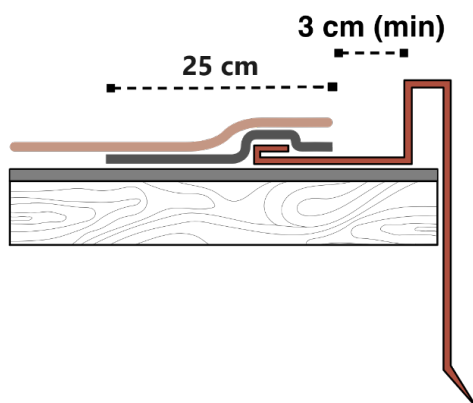

**Fig. 16** - Shingles installation at valleys
- Cross-cut the top edge of the shingle to the valley – Fig. 16, so as to convey the descending water along the axis of the valley. Lift the shingles one at a time and fix them by torch to the membrane below. Where you come to the gritty shingle of the first pitch, apply Bitustick to the lower part to fix it – Fig. 16.